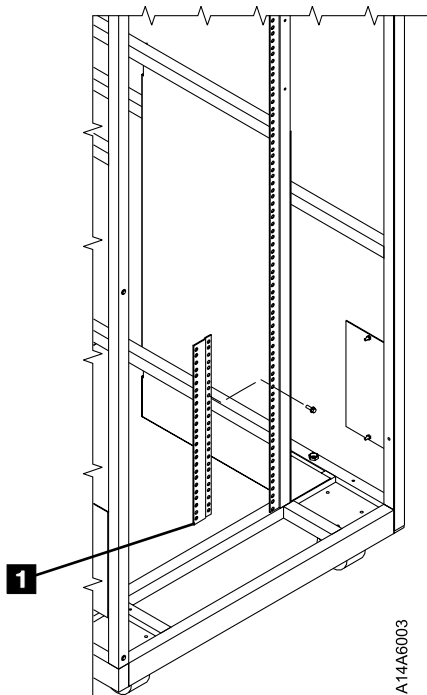
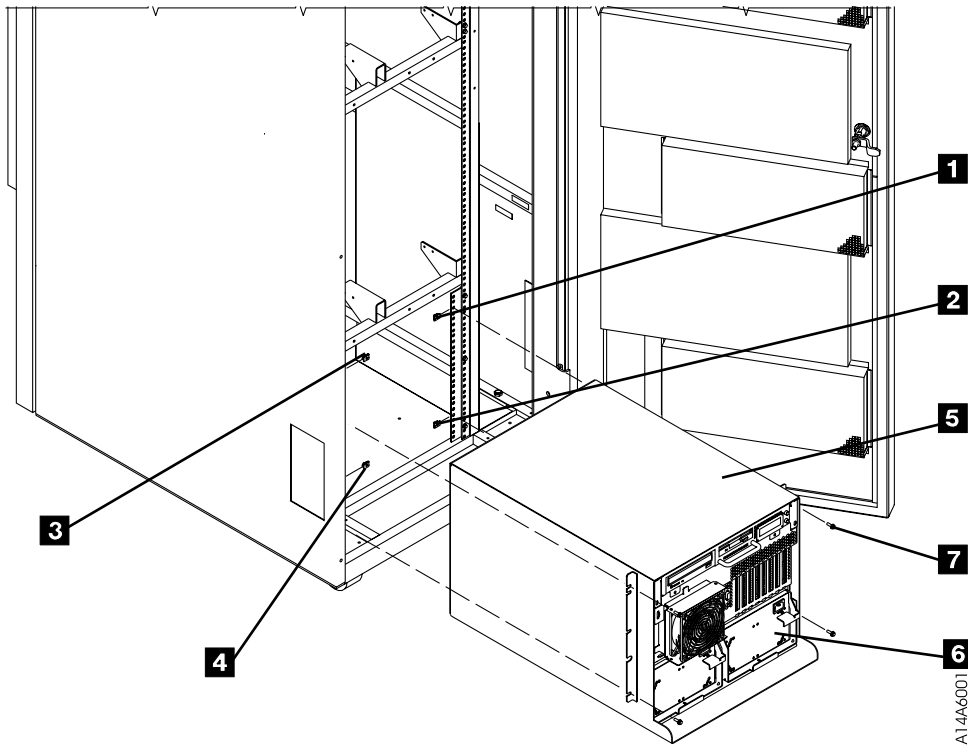

Figure 38. A14 Frame A60 Controller Support Spacer
Figure 39. A14 Hardware Installation
In the following steps, refer to Figure 38 on page 221 and Figure 39 on page 222
- \_\_\_ Step 15. Install the support spacer on the right side of the frame P/N 09L4876, see Figure 38, **1** in holes 3 and 19 from the bottom.
- \_\_\_ Step 16. Install **4 nut clips** (2 on each side), **1** through **4** (see Figure 39 on page 222) counting from bottom of the A14 frame in holes 6, and 25 on each side..
Install the A60 Controller **5** from the rear of the A14 frame with the front of the controller (side not enclosed in the case **6**) facing you, using 4 screws, P/N 1624779 **7** (see Figure 39 on page 222).